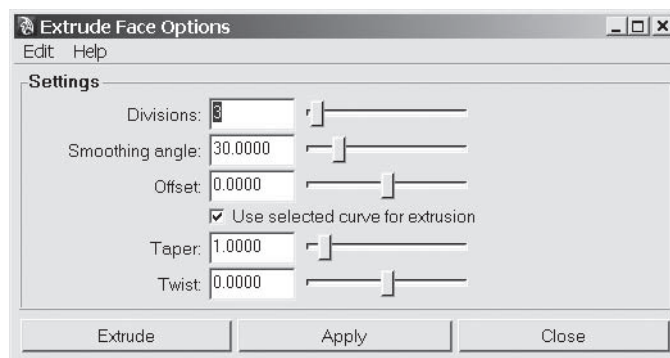

FIGURE 3.62 Extrude Face Options window.
32. Enter 3 in the Divisions field and click Extrude Face, as shown in Figure 3.62.